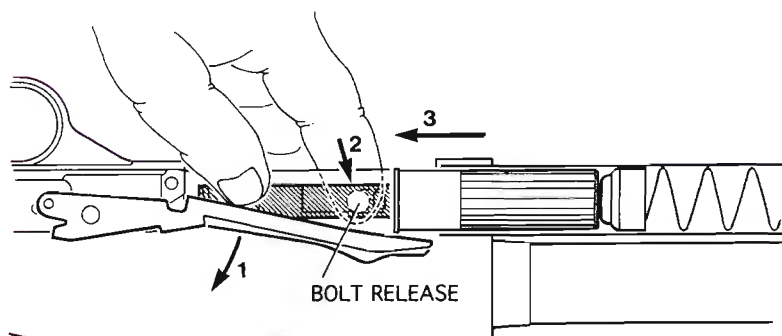

Figure 8
1. First, remove the shells from the magazine tube. With the safety button fully rearward in the "ON" (SAFE) position, turn the shotgun so that the trigger guard is facing upward (Figure 8).